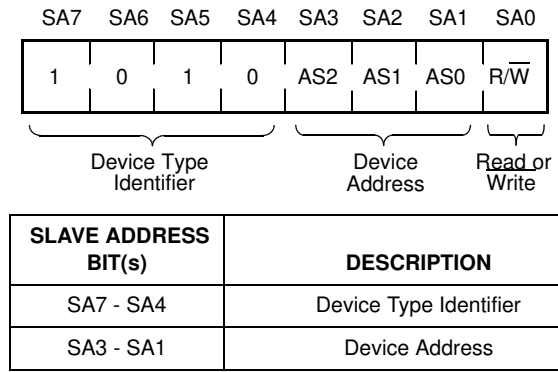

FIGURE 13. SLAVE ADDRESS (SA) FORMAT
The device responds with an ACK after recognition of a START condition followed by a valid Slave Address byte. A valid Slave Address byte must contain the Device Type Identifier 1010, and the Device Address bits matching the logic state of pins A2, A1, and A0. See Figure 13.
Following a START condition, the master must output a Slave Address Byte (Refer to Figure 13). This byte includes three parts:
- The LSB (SA0) is the R/\overline{W} bit. This bit defines the operation to be performed on the device being addressed. When the R/\overline{W} bit is “1”, then a Read operation is selected. A “0” selects a Write operation (Refer to Figure 13)